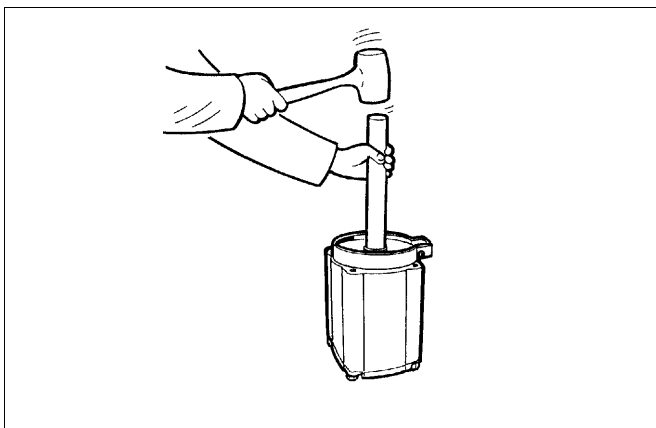

Fig. 11 Placing the piston in the cylinder
- ❑ Knock or press the piston through the tie ring with a press, Fig. 11.
- ❑ Mount the O-ring (19) and the cylinder and piston. Note the location of the air inlet: use the air